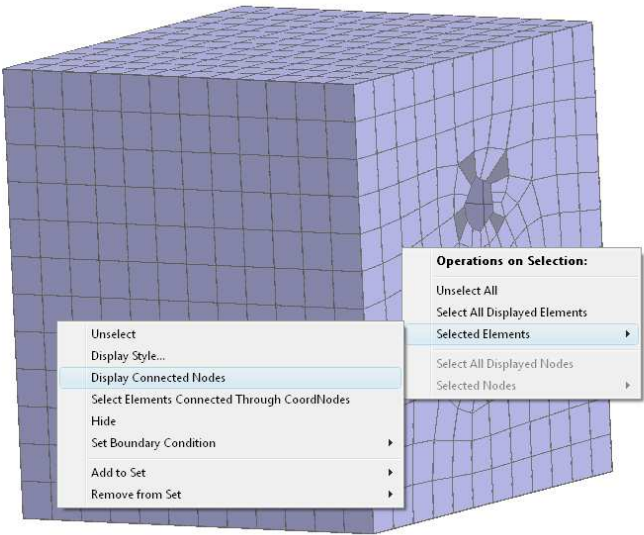

Figure 9.36: Display connected nodes for creating a seam.
- Right-click on the mesh while holding down the *shift-key* to view the context menu and select: **Selected Elements** → **Display Connected Nodes** as shown in Figure 9.36.
- Right-click on the mesh while holding down the *shift-key* to view the context menu and select: **Selected Elements** → **Display Connected Nodes** (similar to the Figure 9.36).